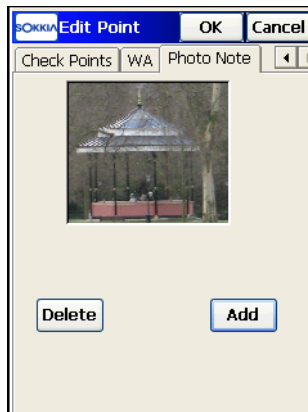

Figure 6-5. Add Photo Note
5. On the *Photo Note* tab (Figure 6-5), add a photo comment on the point. Tap the **Add** button to open the *Browse* screen to select the image. To erase the image, use the **Delete** button.